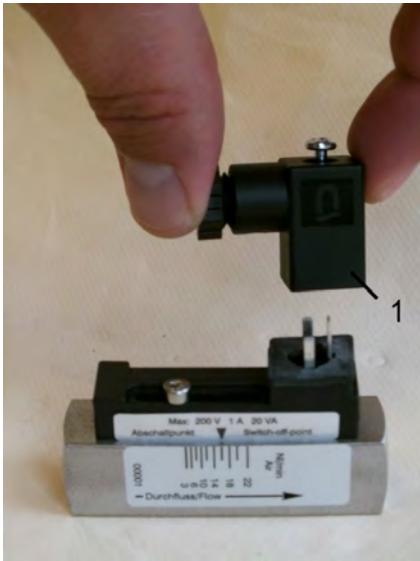

Fig. 50: Remove female socket
- 2.** ➤ Remove the female socket and gasket (Fig. 50/1) by pulling upwards